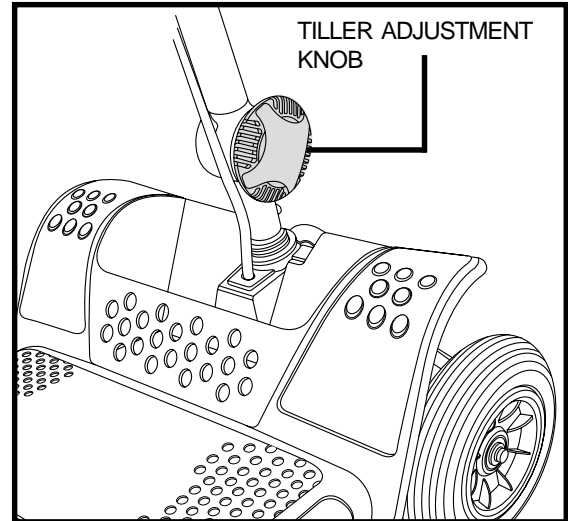

Figure 17. Tiller Adjustment Knob
1. While supporting the tiller, turn the tiller adjustment knob anticlockwise to loosen the tiller. **See figure 17.**